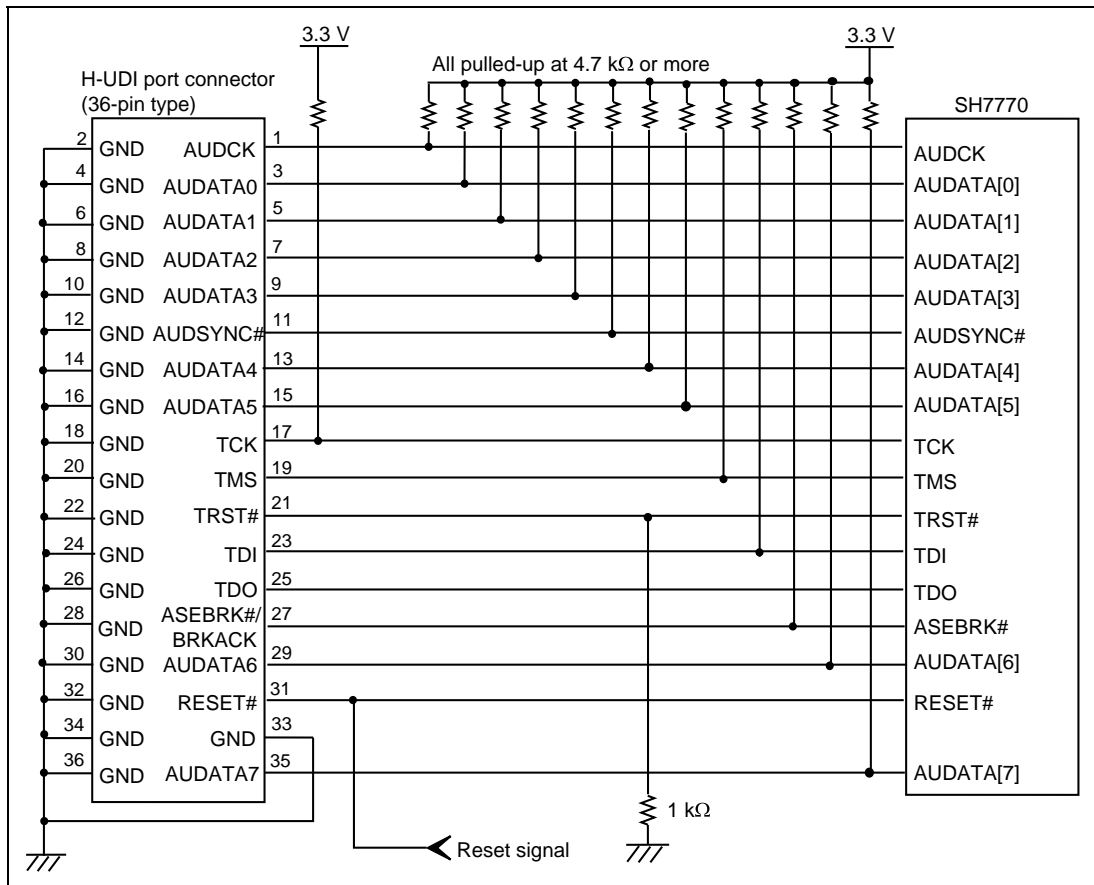

Figure 1.3 Recommended Circuit for Connection between the H-UDI Port Connector and MPU when the Emulator is in Use (36-Pin Type)
Figure 1.3 shows a recommended circuit for connection between the H-UDI and AUD port connectors (36 pins) and the MPU when the emulator is in use.
2. The resistance values shown in figure 1.3 are reference.
When the circuit is connected as shown in figure 1.3, the switches of the emulator are set as SW2 = 0 and SW3 = 0. For details, refer to section 3.8, Setting the DIP Switches, in the Debugger Part of the SuperH™ Family E10A-USB Emulator User’s Manual.